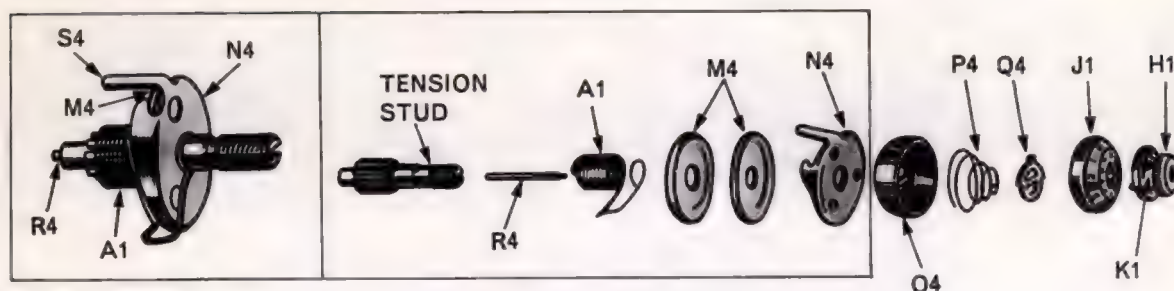

Fig. 20. Needle Thread Tension Assembly.
**REMOVAL:** (See Fig. 20).
1. Turn thumb H1 to left (anticlockwise) until "O" on numbered dial J1 stops at center line on indicator O4, Fig. 20.
**NOTE:** IT IS NOT NECESSARY TO REMOVE TENSION STUD FROM MACHINE. IT IS SHOWN REMOVED IN FIG. 20. TO ILLUSTRATE COMPLETE ASSEMBLY. SEE PAGE 9 FOR INSTRUCTIONS ON REMOVAL OF TENSION ASSEMBLY AS A UNIT.
1. Make certain that tension releasing pin R4 is in place as shown in insert, Fig. 20.
4. Align coils of spring with holes in discs and place this assembly on tension stud as shown in insert Fig. 20 Extension S4 of thread-guard N4 enters hole provided in machine head.
5. Replace indicator O4, Fig. 20 with open side facing out and with plus (+) and minus (—) signs at top.
6. Hold these assembled parts against shoulder of stud and place tension spring P4, Fig. 20, so that the half coil at front is in the lower position, on tension stud.